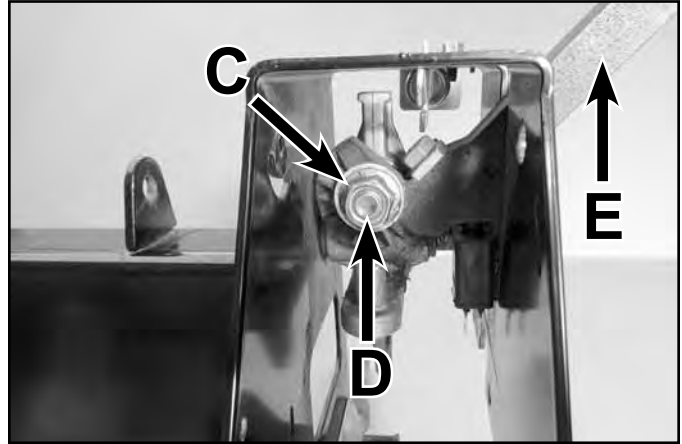

Fig. 030
4. Remove the actuator arm nut (C) and (2) washers (Fig. 030).
5. Remove the shoulder bolt (D), actuator arm (E) and the (2) washers from the activator arm (F) (Fig. 030).